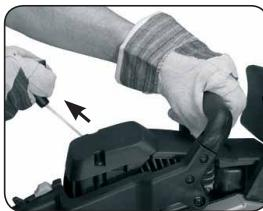

Fig. 7F
- Place saw on a firm, flat surface. Hold saw firmly as shown. Pull starter rapidly 4 times. Beware of moving chain! (Fig. 7F)